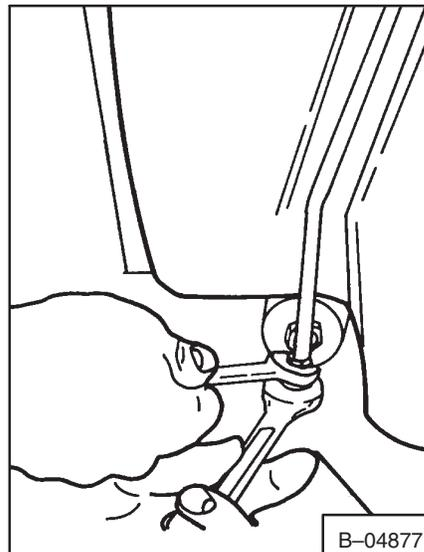

Fig. 5-51 Disconnecting Fuel Line
5. Remove the fuel line (Fig. 5-51).